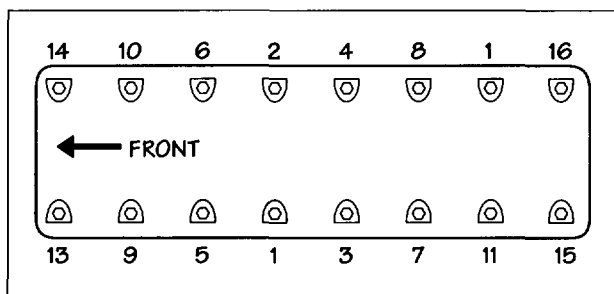

FIG. 52
6. Install the cover on the Jacobs spacer and tighten the cover cap screws in the sequence shown in Fig. 52 to 130 lb.-in. (15 N•m).